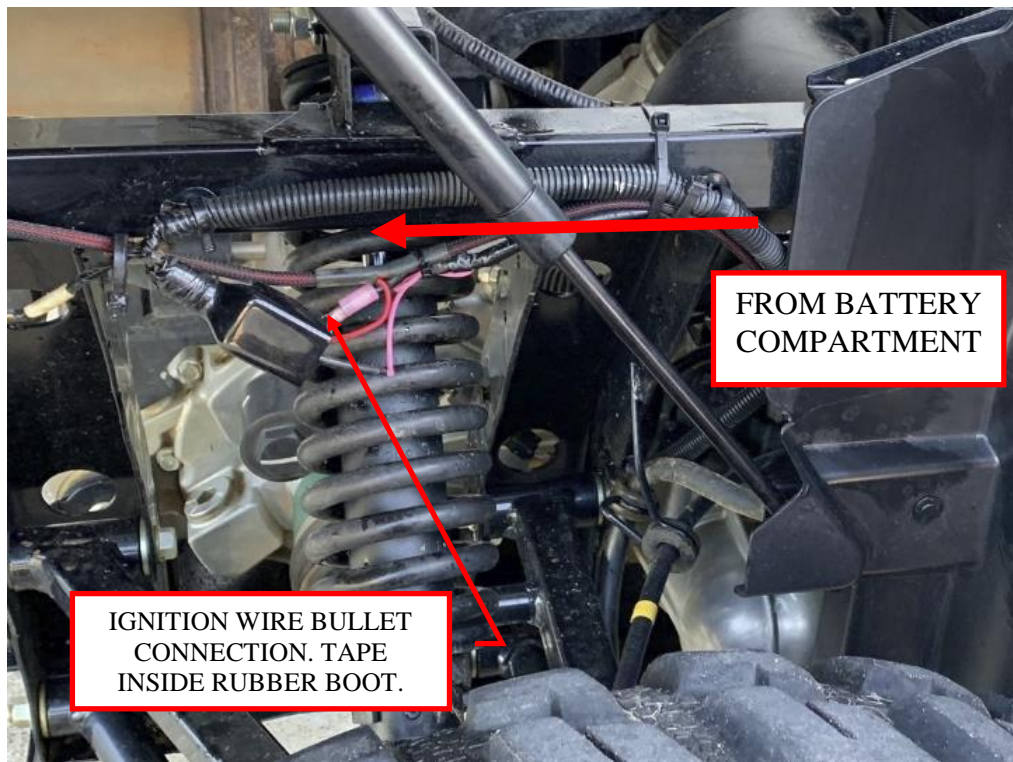

Figure 18: Ignition wire connection.
19. Run the ignition wire out the back of the battery enclosure and down the frame. Plug the male bullet connector on the end of the ignition wire into the mating female bullet connector on the brown wire with white stripe. The female bullet connector on the Kawasaki OEM harness is located under a rubberized plastic cover. **Note: Secure any loose wire so that it will not get caught on any moving parts (gas struts, bed, etc.). Tape up the bullet connector inside the rubber boot.** See Figure 18.